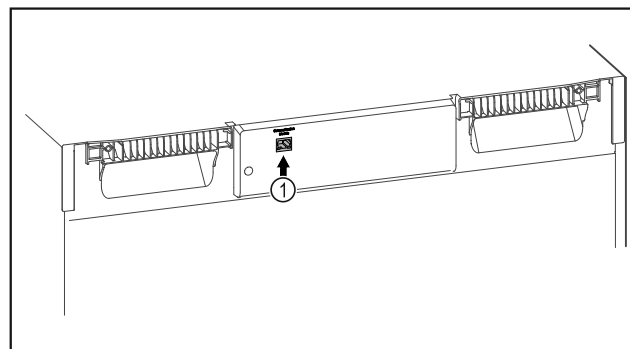

Fig. 97
- ☐ SmartModule Fig. 97 (1) is in use.